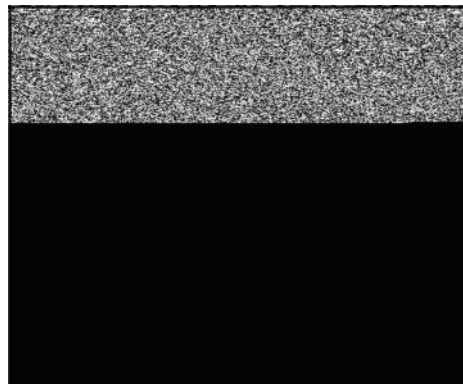

Figure 54
7. After final carburetor adjustment (last step below), use Knockout Pin #19135 (**A**, Figure 54) to install new limiter cap (**B**) with flat side facing up.